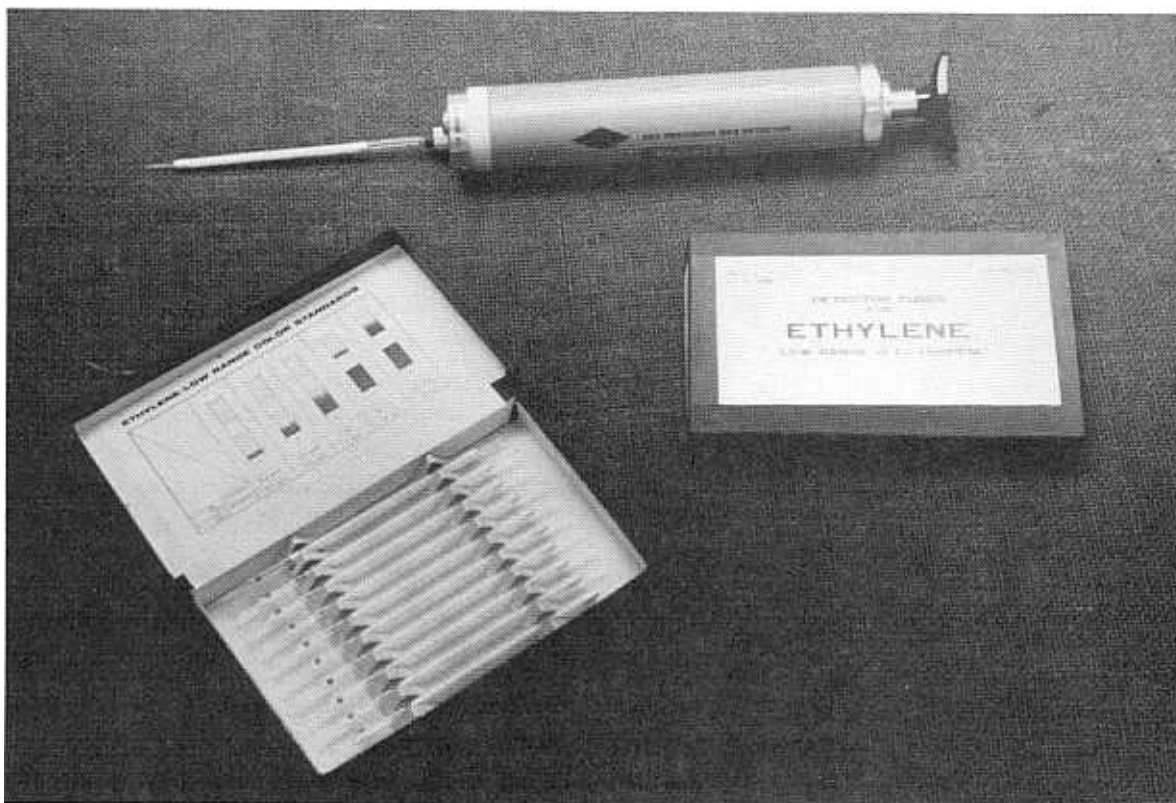

Figure 5. Ethylene analyzer commonly used by Florida citrus packers. (Wardowski 1989).
2. Portable Ethylene Analyzer A portable ethylene analyzer (Figure 5) is used by citrus packers to determine the ethylene concentration in degreening rooms. The most common one is a Kitagawa gas analyzer with low range ethylene tubes. A sealed glass tube is broken at both ends and a measured volume of degreening room air is drawn through the tube. A reaction with ethylene changes a portion of the tube contents from yellow to blue, with the amount of blue indicating the ethylene concentration.